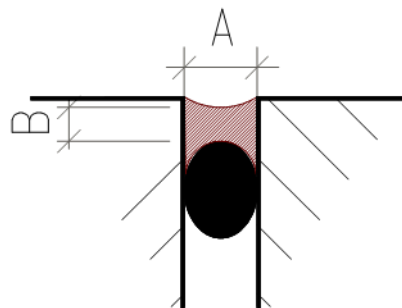

FIGURE 2 Joint width (A) and joint depth (B) of a sealant joint (sealant marked in red, backer rod marked in black)
| Joint width (A) (see Figure 2) | between 6 mm and 45 mm |
Elastic sealants may adhere to only two sides of the joint to perform properly. The bottom surface of the sealant must be free to deform. If the bottom of sealant adheres, the sealant will rupture during deformation. To avoid adhesion to the joint's bottom and to limit its depth, backing rods are used (see Figure 2).